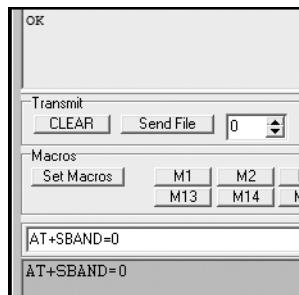

Figure 20-6: Successful band change
- To set the GSM module to the required band, enter the command **AT+SBAND=x**, where **x** is the band number selected from Table 20-1. The shield should return *OK*, as shown in Figure 20-6.